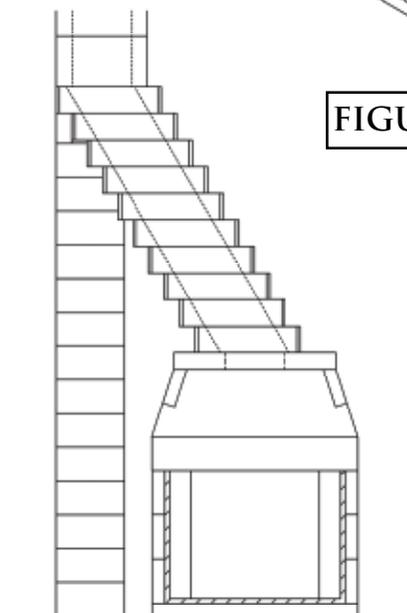

FIGURE 55
**NOTE: For offset chimney block sequences that clear the side wall of the firebox below, it is allowable to support the first offset block that clears the the firebox side wall and then to proceed with supports at each third offset block thereafter. (Figure 55)**